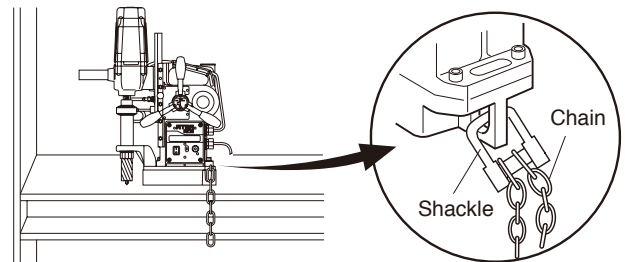

Fig. 4
- This machine comes with the Chain. The Chain is to be used to fasten the machine to the work piece. If you do not use the Chain, it is possible that the machine may fall. (Fig.4)